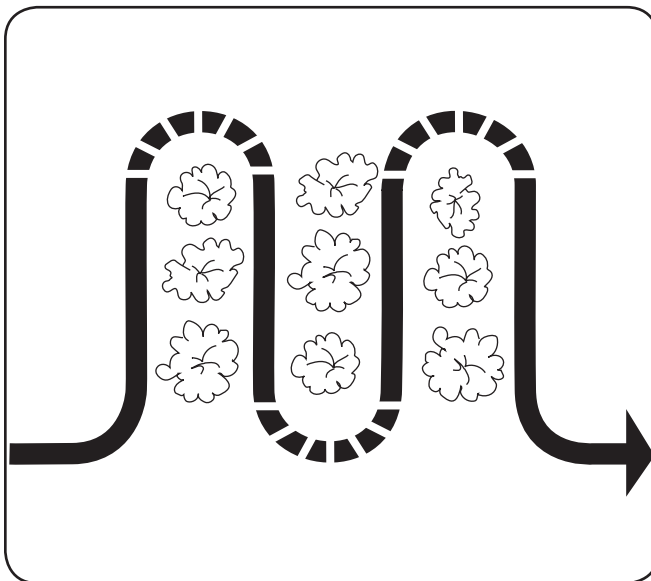

Figure 5-8
- With planning, you can allow enough room between rows to cultivate. See Figure 5-8. Leave room for the hood width, plus enough extra room for future plant growth.